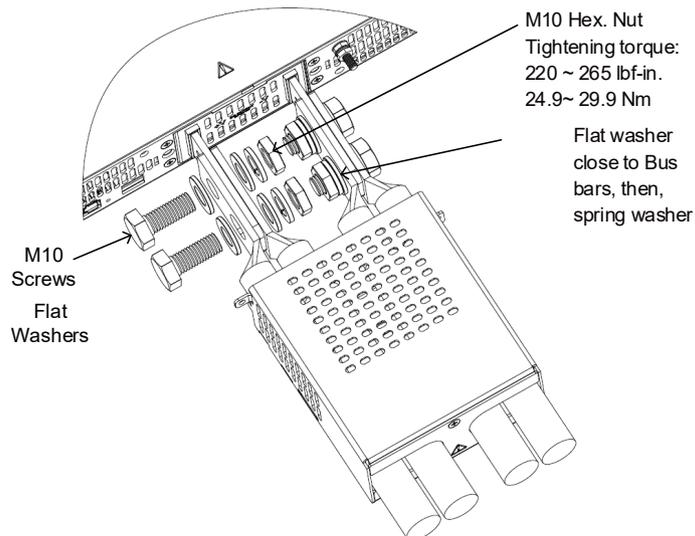

Figure 4-43: 10V Wires Assembly
4. Fix the wires to the Bus bars as shown in Figure 4-43. In this model, the plastic protectors will not be assembled.